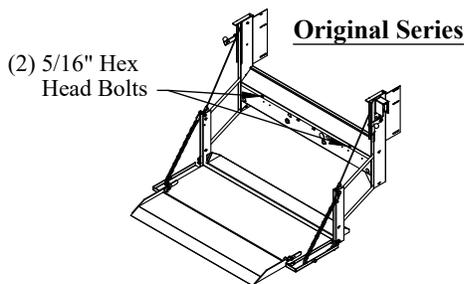

Figure 6: Box cover location.
- Remove** the box cover by removing the 5/16" hex head bolts (Figure 6).